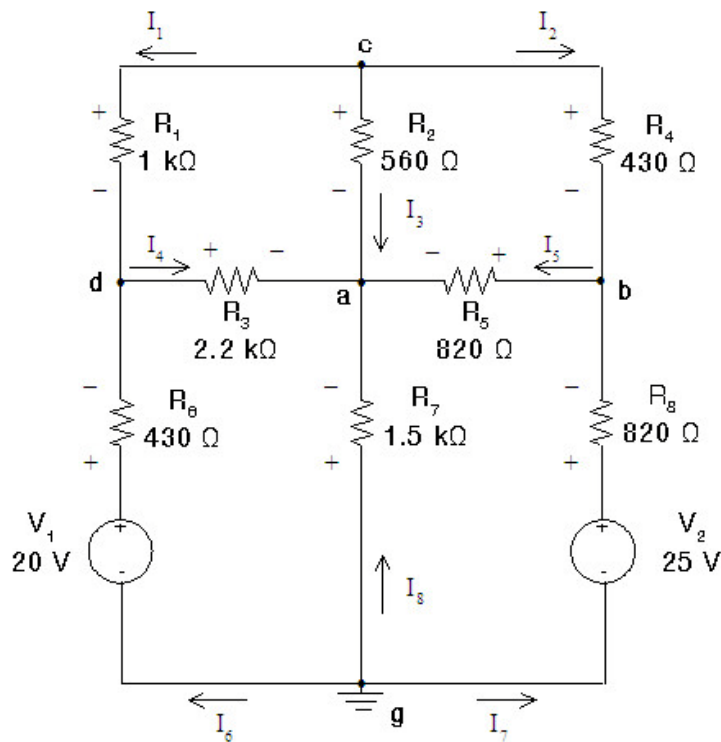

Figure 1 Circuit for Node-Voltage & Mesh-Current Methods
1. The circuit of Figure 1 contains two constant voltage sources. Solve this circuit using node-voltage method. Determine the currents through all the elements and voltages across all elements. Note carefully the direction of all currents and the polarity of all voltages. Verify that the total power developed equals the total power absorbed. Use Table 1 and Table 2 to record all your answers.
3. Solve the circuit of Figure 1 using PSpice. Use part VPRINT1 and IPRINT (Page 24 of PSpice supplement) suitably. From the output file make a record of the required voltages and currents. (Be care with polarities.)
- 1.1.** Construct the circuit in Figure 1 on the breadboard provided. Turn on the power supply and use the DMM to measure the source voltages. Within the limitations of the control knobs, ensure that the voltage sources are fixed at 20 V and 25 V *after* they are connected to the circuit by adjusting the power supply if necessary.
- 1.2. Measure the voltage across each resistor in the circuit with the polarity as indicated in Figure 1. Record these readings in Table 1.
Table 1 Verification of Kirchhoff's Voltage Law (KVL) Figure 1
- 1.3. When you use the DMM as an ammeter, you have to disconnect some part of your circuit and connect the DMM in series with the element whose current you want to measure. Do this carefully. Before you make the connections, make sure that the power supply is turned off. Measure the current flowing in each branch of the circuit with the direction as indicated in Figure 1. Record these readings in Table 2.